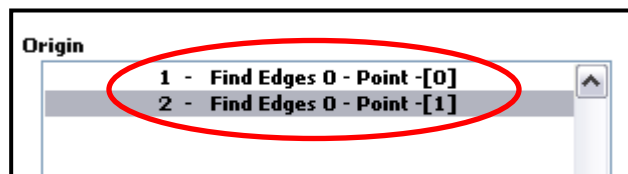

Figure 40. Select the origin.
4. Choose the source of the position from the Origin list [Figure 40].